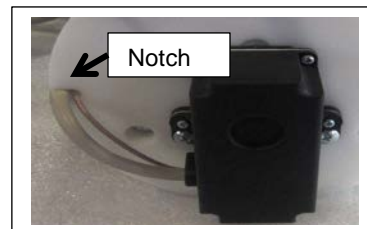

Figure 78
7. Route the cables through the notch in the white plastic plate and re-install the brake cover. (See Figure 78.)